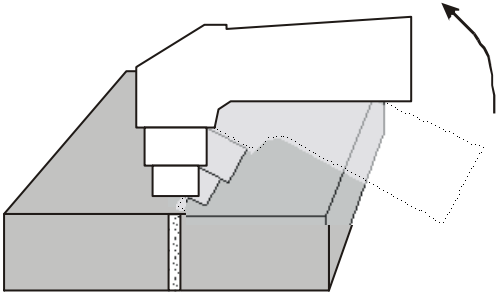

Fig. 3
- To achieve a good cutting quality make sure the distance between the tip and the material is about 2 mm. The Standoff Guide ABI25/45 pos 21 located at the end of the plasma torch guarantees the distance. At a greater distance decreases cutting power and the arc may go off. With too small distance the torch parts will be worn off faster.
- We recommend starting cutting at the edge of the material. If needed to start from the centre of the material, or to cut hole into the material, slightly tilt the torch head and gradually it straighten into a vertical position so the spraying material would not damage the cutting tip (see Figure 3). This workflow must always be followed, if the thickness of material is above